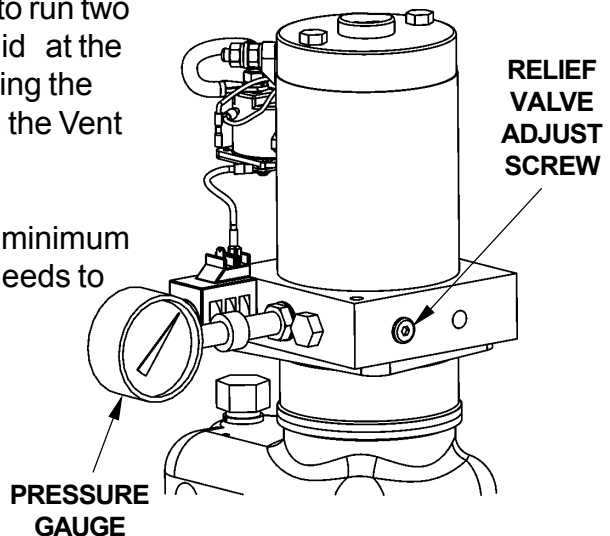

FIG. 38-2
3. With Platform on the ground, remove the pressure hose and fitting from the Pump and replace it with a 0-3000 PSI Pressure Gauge. Hold the switch in the "UP" position. Adjust the Relief Valve on the side of the Pump until the gauge shows 2800 to 3000 PSI (**FIG. 38-2**). Remove guage and re-install pressure hose.